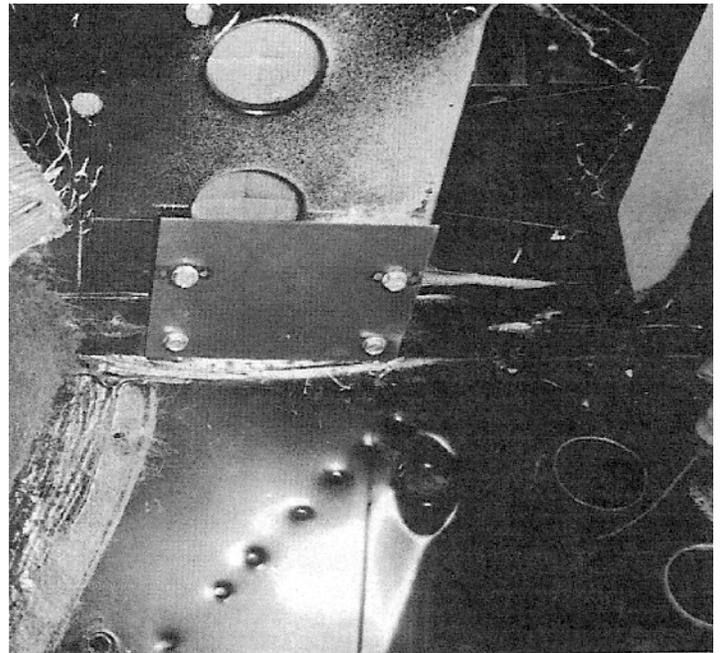

FIG 4
9. Slit the heat duct on the underside of the dash on passenger's side and flatten against bottom of dash as shown in FIG. 4
- 10 Remove (2) black sheet metal screws holding heater control panel to dashboard. Discard screws. Remove and discard (2) sheet metal screws which secure the (2) upper controls to the dashboard. Remove and discard the (4) plastic screw plugs.
11. Remove and discard (2) machine screws which hold the heater control to the transmission tunnel.